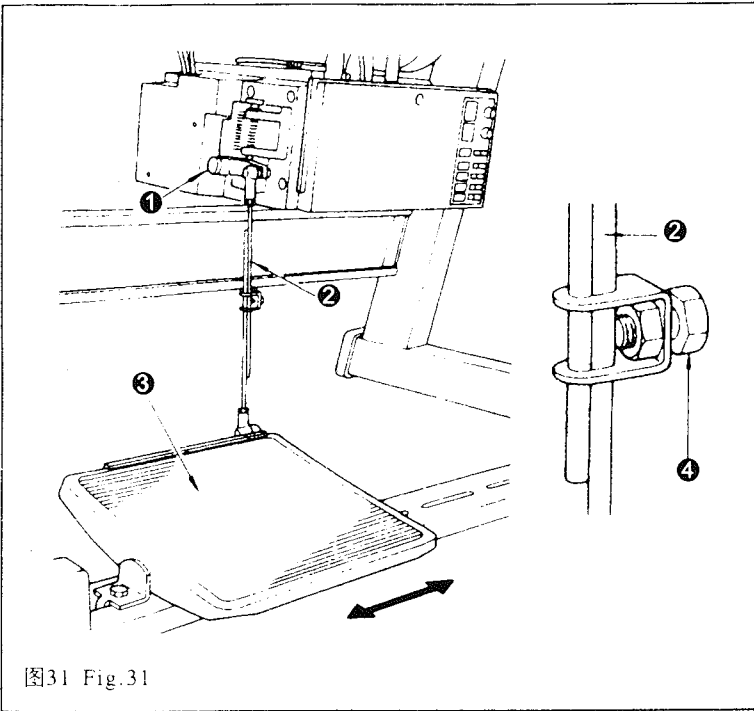

图31 Fig.31
24. 踏板的调整(图31) 24. ADJUSTMENT OF THE PEDAL (Fig.31)